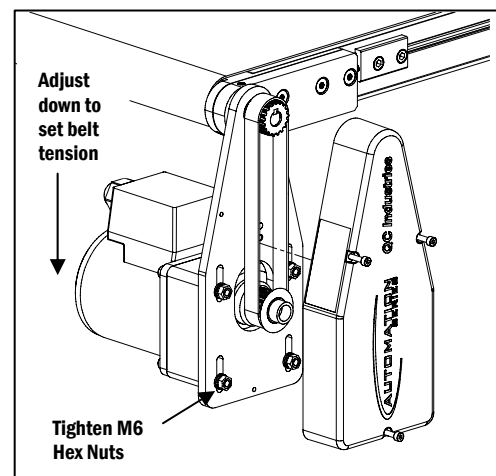

Figure 7
- c. Retighten the four M6 Hex Nuts with a box wrench to hold the gearbox (and subplate, if applicable) in position (**Figure 7**).